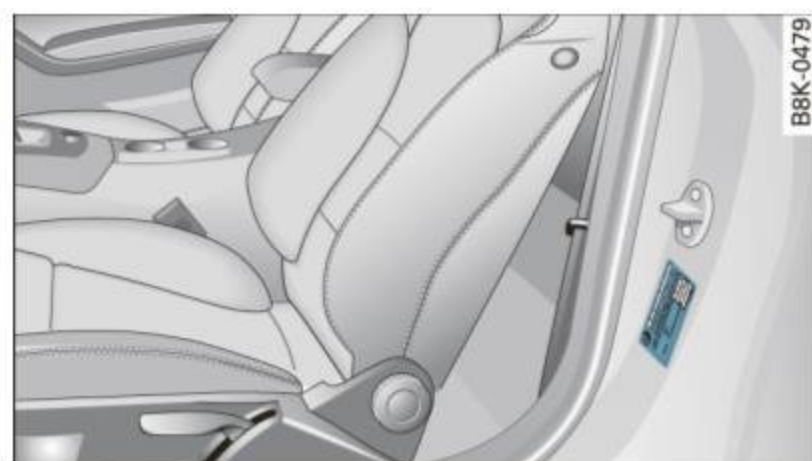

Fig. 219 Tire pressure label: located either on driver's side B-pillar or inside the fuel filler flap
See the illustration ⇒ *page 291*, fig. 219 for the location of the label either on driver's side B-pillar or inside the fuel filler flap (color of the actual label and exact location on the vehicle will vary slightly).
Remember, your safety and that of your passengers also depends on making sure that load limits are not exceeded. Vehicle load includes everybody and everything in and on the vehicle. These load limits are technically referred to as the vehicle's Gross Vehicle Weight Rating ("GVWR"). The Gross Axle Weight Rating ("GAWR") is the maximum load that can be applied at each of the vehicle's two axles. The Gross Vehicle Weight Rating and the Gross Axle Weight Rating are listed on the safety compliance sticker label located either on the driver's side B-pillar or on the inside of the fuel filler flap. The tire pressure label on your Audi lists the maximum combined weight of all of the occupants and luggage or other cargo that the vehicle can carry. For the location of the tire pressure label ⇒ *page 291*, fig. 219.
The tire pressure label on your Audi lists the recommended cold tire inflation pressures at maximum capacity for the new, original equipment tires that were on your vehicle at the time it was manufactured. For the location of the label ⇒ *page 291*, fig. 219.
The tire pressure label on your Audi also lists the maximum combined weight of all of the occupants and luggage or other cargo that the vehicle can carry. For the location of the label \Rightarrow *page 291*, fig. 219.
1. Locate the statement “THE COMBINED WEIGHT OF OCCUPANTS AND CARGO SHOULD NEVER EXCEED XXX KG OR XXX LBS” on your vehicle’s placard (tire inflation pressure label) \Rightarrow *page 291*, fig. 219.